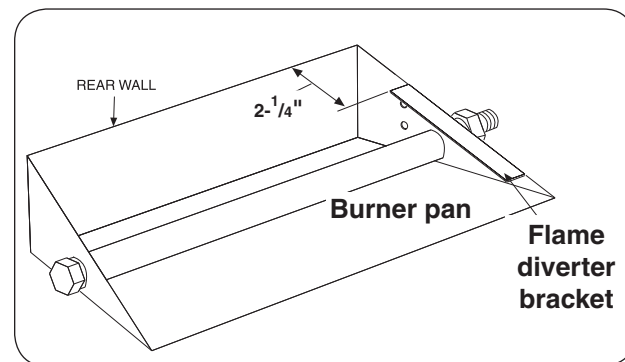

Fig. 5-2 Install diverter bracket (if applicable)
1. Place the flame diverter bracket over the side edge of the burner pan, near the location the safety control system pilot bracket will be attached. It should be placed **approximately 2-1/4"** from the rear wall of the burner pan (see Fig. 5-2).